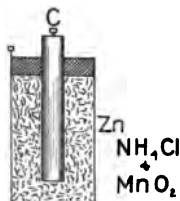

FIGURE 230.—CROSS SECTION OF A SIMPLE DRY CELL.
Figure 230 shows a cross section of this cell. The outside, or case, is zinc, and acts as the negative electrode. The center portion (C) is a stick of carbon, which is the positive electrode. Packed in around this carbon stick is a paste of NH_4Cl and manganese dioxide (MnO_2). The NH_4Cl is the active portion, and the manganese dioxide is put in to retard polarization. This is an open-circuit cell.